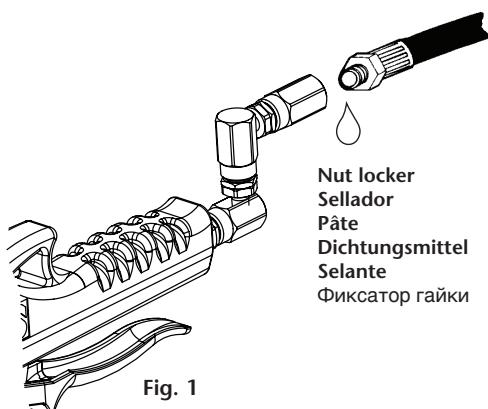

Fig. 1
1. Connect to the supply line by applying thread sealer on the 1/4" union thread between the hose and the gun swivel (fig. 1).
1. Realice la conexión a la red de suministro aplicando sellador de juntas en la rosca 1/4" de unión entre la manguera y la rótula de la pistola (Fig. 1).
Hold the upper semibody (12) with a bench vice (fig. 1) placing in the outlet connector seat a bar which would prevent the piece from swivelling between the vice jaws.
Unscrew the lower semibody with a STILSON wrench (apply at point indicated in fig. 1).